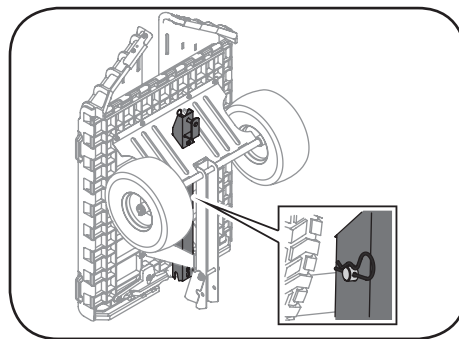

Figure 6-1
6. Stand the hauler up on its front end. See Figure 6-1.
7. Slide the tongue assembly into the opening on the hauler support bracket as shown in Figure 6-1.
8. Secure the tongue assembly in place with the clevis pin and cotter pin as shown in the inset of Figure 6-1.